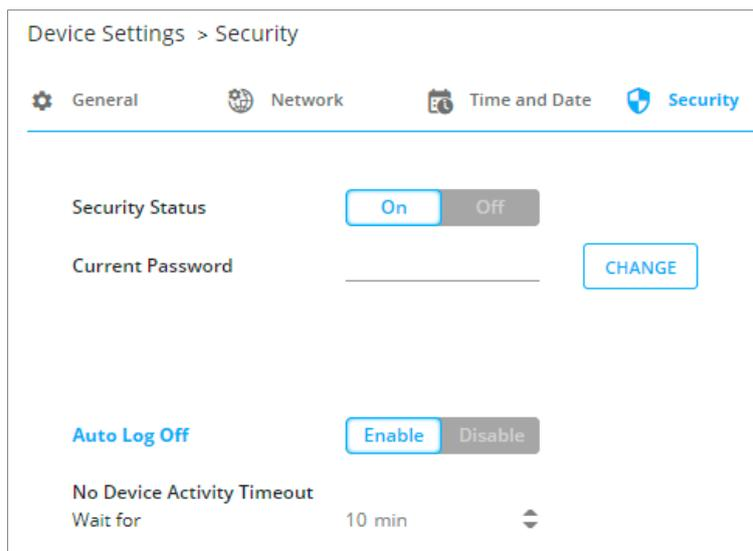

Figure 19: Device Settings > Security Page
1. Go to the Device Settings > Security page (Figure 19).